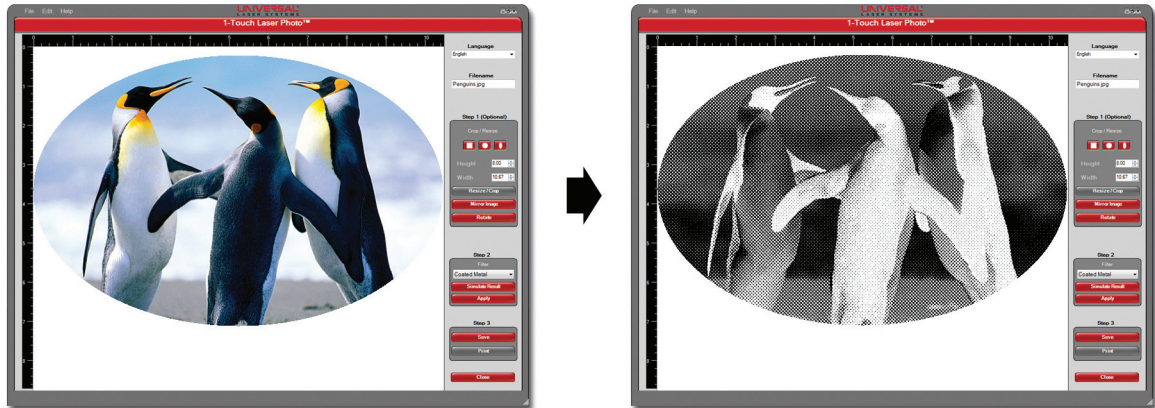

Figure 4c. Example of photo after a filter has been applied
3. **APPLY FILTER** – Click the APPLY button to apply the selected material filter to the image. A window with a progress bar will appear while the image is being processed. Image processing time is based on the speed of your computer and the size of the image. – See Figure 4c